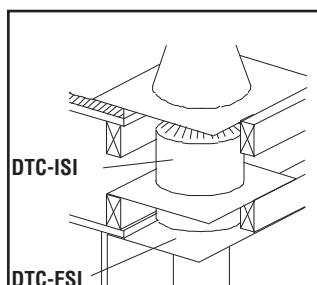

Figure 29
Step 6. At the attic level, install a firestop (DTC-FS), from below and an attic radiation shield (DTC-ISI) from above (see Figure 29).